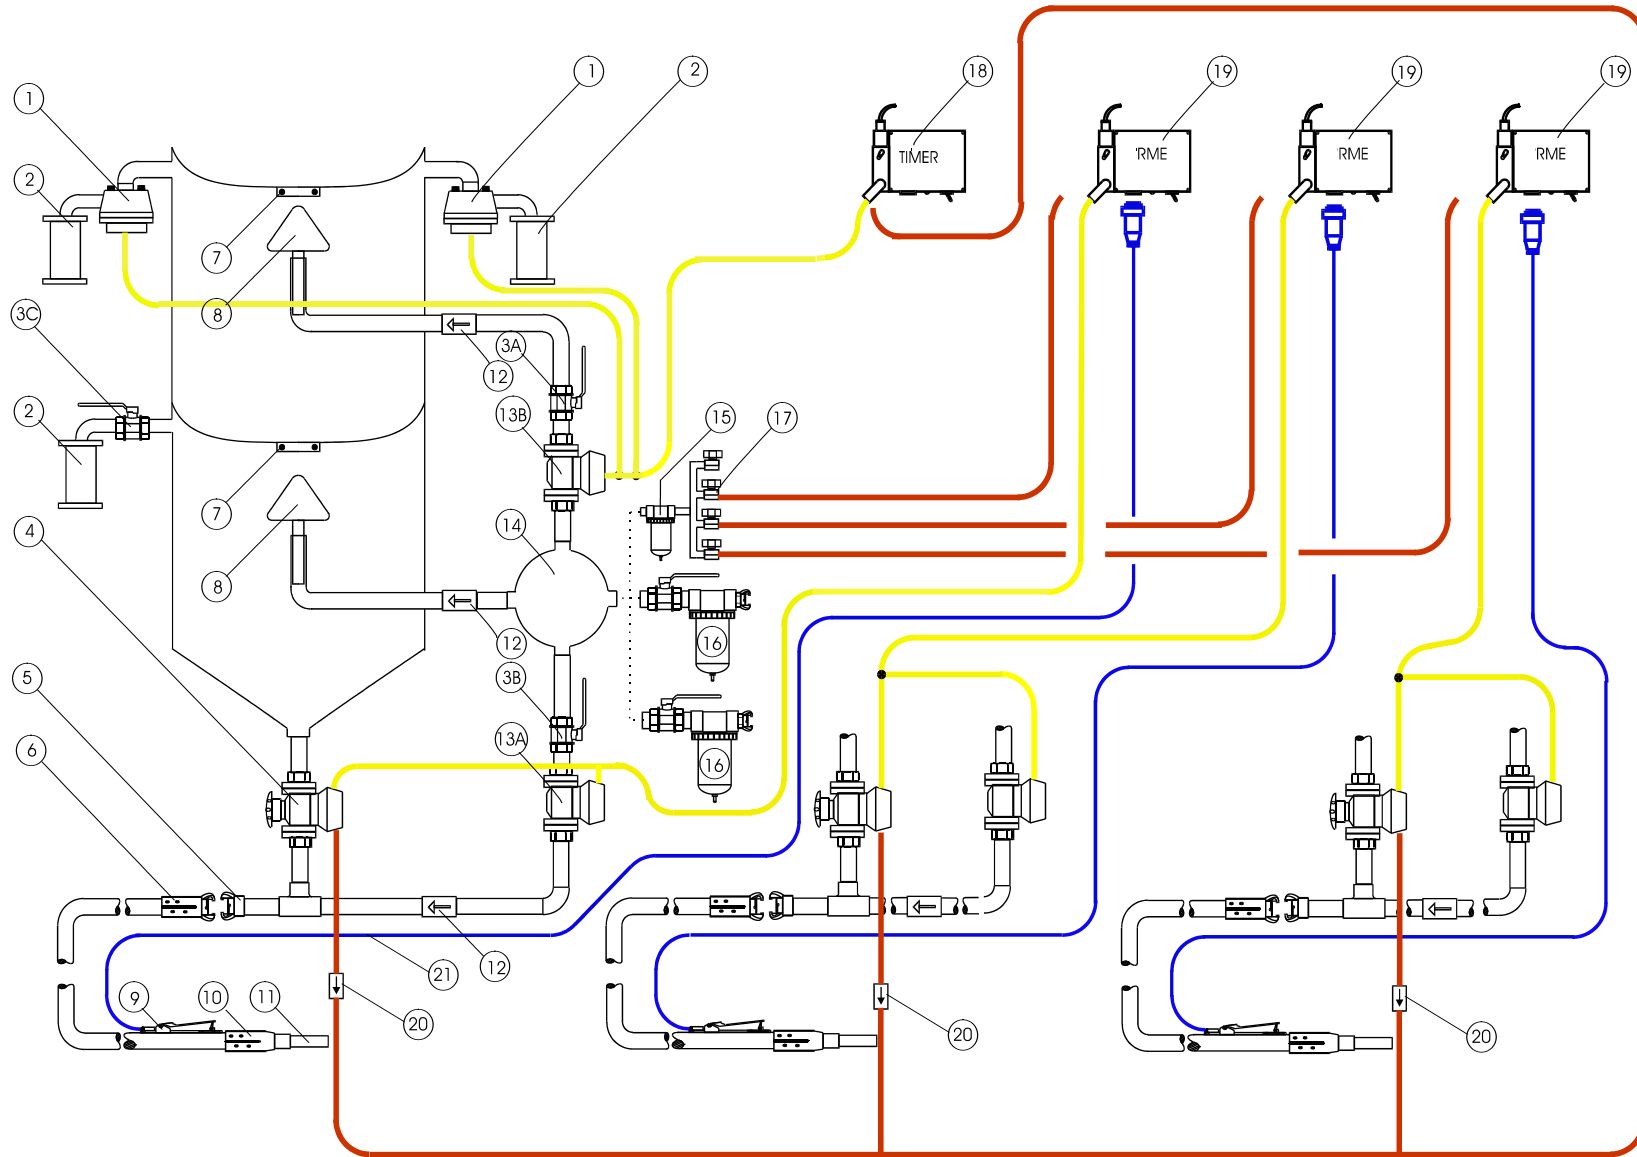

Figure 2 Dual chamber blast machine for 3 operators with electric remote controls.
3.2.2 Electric remote controls (see figure 2)6
7 REPLACEMENT PARTS (ALSO SEE FIGURE 2)22
- *1 air valve (item 13B) to pressurize or depressurize the upper chamber (for example PVR-A, RMS-1500).*
- *2 outlet valves RMS-500 (item 1) with muffler (item 2) for quickly depressurizing the upper chamber.*
- *1 media metering valve (item 4) per operator (for example PVR-G, Thompson Valve).*
- *1 pop-up valve (item 8) with pop-up gasket (item 7) for the upper chamber.*
- *1 pop-up valve (item 8) with pop-up gasket (item 7) for the lower chamber.*
- *Non-return valves (item 12 and 20) to prevent a back draft of abrasive into the control system.*
- *1 ball valve (item 3C) for depressurizing the lower chamber.*
- *1 cycle timer (item 18) for periodically pressurizing and depressurizing the upper chamber (abrasive refill).*
- *1 deadman handle per operator (item 9) with*
- *twinline hose (item 22) or*
- *1 electric panel RME-1 and electric cord (item 19 and 21, figure 2) per operator.*
- *1 blast hose per operator with nozzle holder (item 10) and nozzle (item 11)*
3.2.2 Electric remote controls (see figure 2)